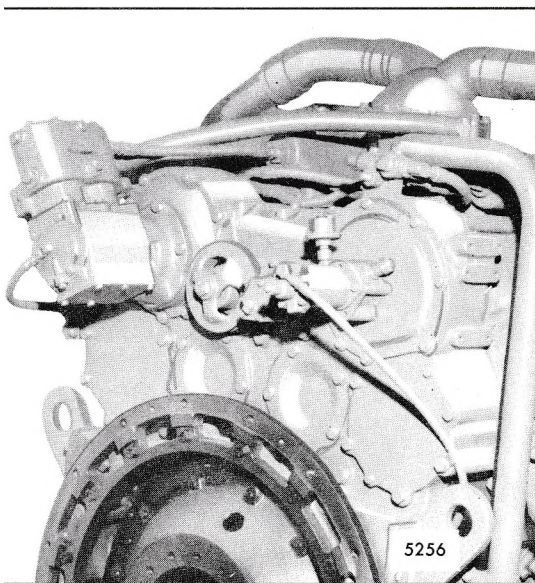

Fig. 1 - Air Compressor Mounting
• The air compressor (Fig. 1) may be mounted on a bracket attached to the cylinder block of the engine and belt-driven from the crankshaft pulley, or it may be flange-mounted to the flywheel housing and gear-driven by means of an accessory drive attached to a camshaft. Series 149 engines currently use 12 CFM (inline configuration) or 24 CFM (vee configuration) air compressors.